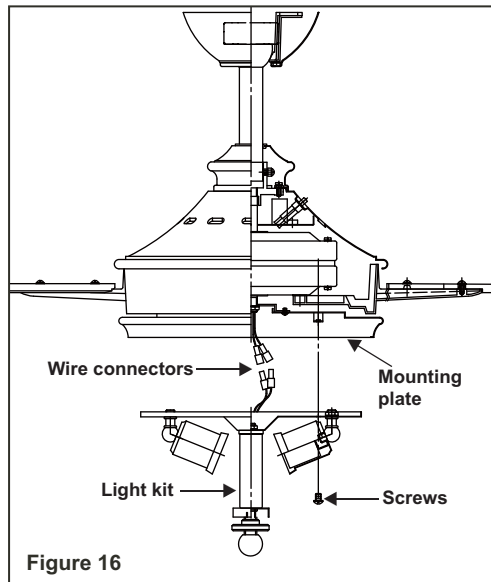

Figure 16
**Step 2.** While holding the light kit under your fan, make the polarized plug connections: (Fig. 16)
**Step 3.** Place the key holes in the light kit over the two screws previously loosened from the mounting plate. Turn the light kit until the light kit locks in place at the narrow section of the key holes. (Fig. 16)